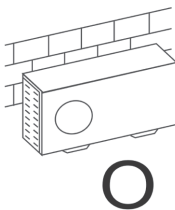

Fig. 2.1
- If the location is exposed to strong winds (for example: near a seaside), the unit must be placed against the wall to shelter it from the wind. If necessary, use an awning. (See Fig. 2.1 & 2.2)